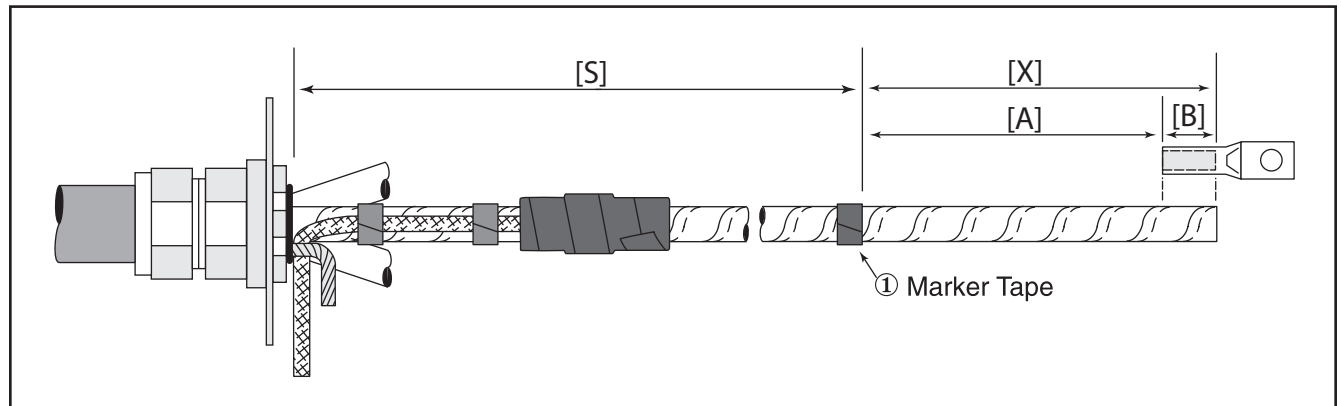

Figure 5
- 3.1 From the chart below, determine the correct [A] dimension (Figure 5) for the termination product being installed.
- 3.2 Place a vinyl tape marker on each cable phase leg at dimension [X] (① Figure 5).
- 3.3 Determine required phase rejacketing sleeve length ($[S]-1"$ (25 mm) Figure 5).